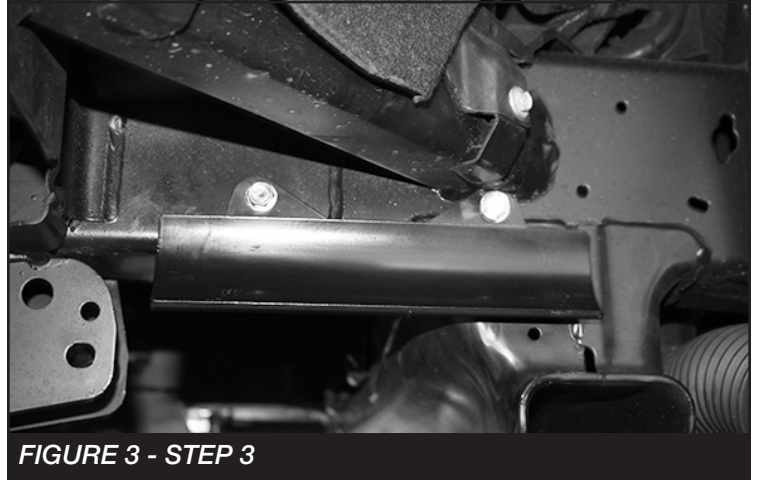

FIGURE 3 - STEP 3
3. Install the resi mount using the supplied 5/16" self tapping bolts. Torque to 20 ft-lbs. **SEE FIGURE 3**